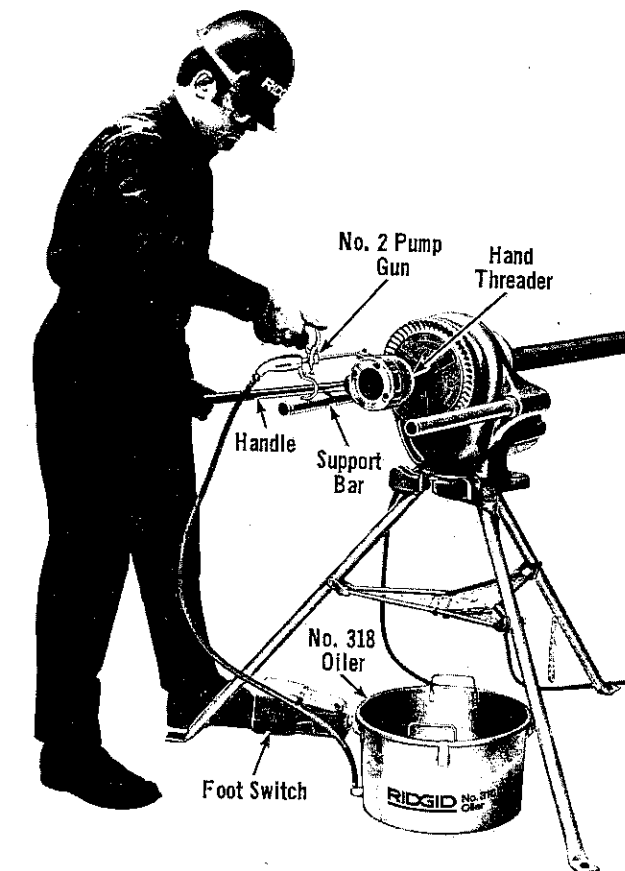

Figure 6. Oiling Hand Threader Dies.
Note: Correct operating position for cutting, threading and reaming is to stand on the switch side of the Power Drive straddling the nearest tripod leg with left foot operating Foot Switch (Fig. 6).
- Place No. 318 Oiler (Fig. 6) under Threader and apply RIDGID Thread Cutting Oil on pipe end.
- Note:** Threader is self feeding once Dies are engaged. Apply plenty of oil (Fig. 6) until threads are completed.
- Push back Support Bar (Fig. 6) on switch side.
- Release Foot Switch (Fig. 6) and turn REV/OFF/FOR Switch to OFF position.